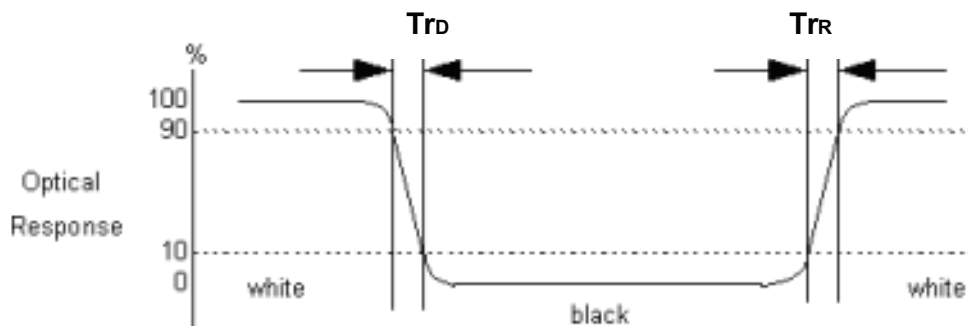

Fig.4-3 Response time
4. Response time is the time required for the display to transition from white(L255) to black(L0) (Decay Time, $T_{rD} = T_f$) and from black(L0) to white(L255) (Rise Time, $T_{rR} = T_r$). The response time interval is between the 10% and 90% of 1st frame amplitudes. For additional information see FIG 4-3.